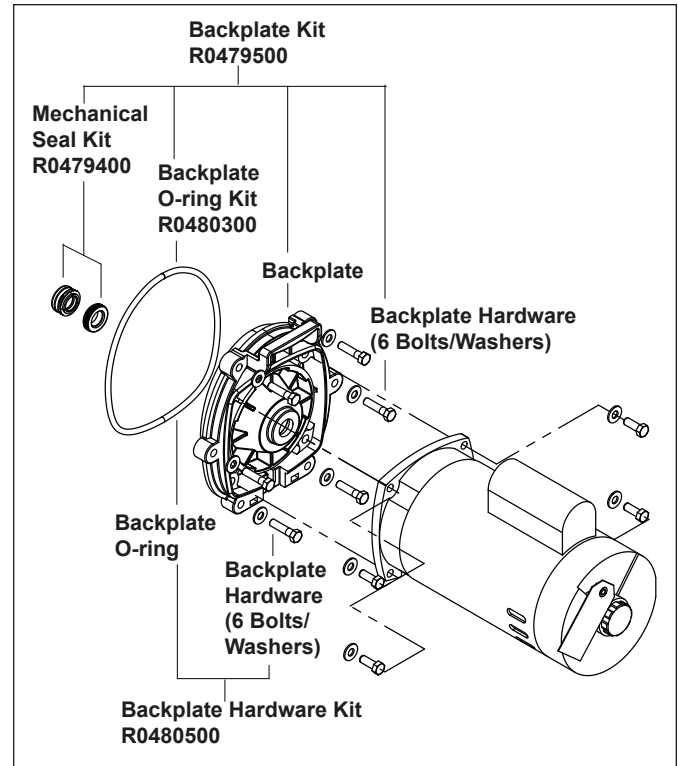

**Figure 3. Impeller and Diffuser Assembly Kits**
2. Using a No. 1 Phillips screwdriver, remove the two (2) screws attaching the diffuser to the backplate. Carefully remove the diffuser from the backplate. See Figure 3.
9. Install the new diffuser over the impeller. Make sure you insert the alignment pins into the correct holes. The molded-in arrow must align with the molded-in arrow on the backplate. See Figure 3.
10. Install the two (2) Phillips-head screws. Tighten the screws to draw the diffuser against the backplate.